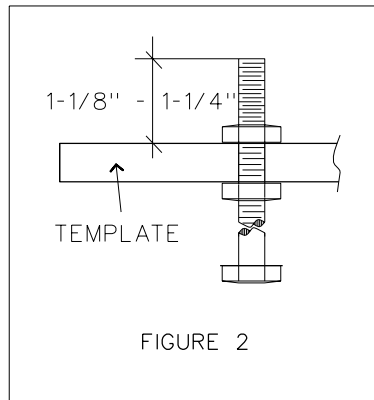

FIGURE 2
3. USE $\frac{5}{16} \times 4\text{-}1/2$ " MOUNTING BOLTS AND $\frac{5}{16}$ -18 HEX NUTS SUPPLIED, PREPARE PLASTIC MOUNTING TEMPLATE AS SHOWN IN FIGURE 2. THREADED END BOLTS SHOULD PROTRUDE $1\text{-}1/8$ " TO $1\text{-}1/4$ " FROM TOP SURFACE OF TEMPLATE.